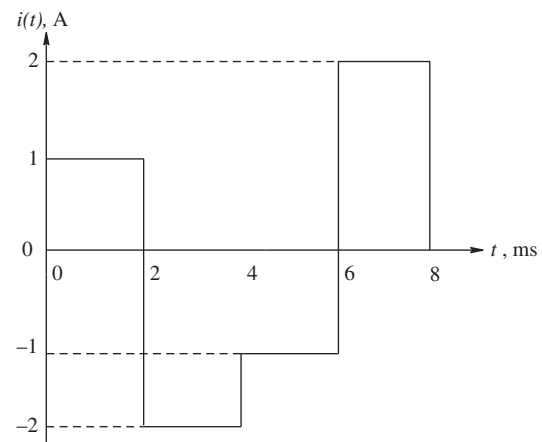

Figure P8.25 Current flowing through a capacitor for problem P8-25.
- 8-25.** A current in amps is flowing through the capacitor $C = 100 \mu\text{F}$, as shown in Fig. P8.25.